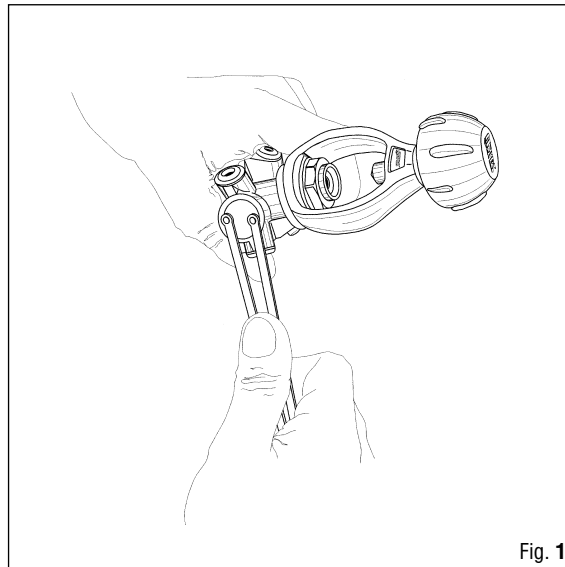

Fig. 1
1. Move the 1ST stage hose protection, and unscrew the hose (26) using a 14-mm open end wrench (B -18).
2. Using a caliper tool (B 25), unscrew and remove the HP housing assembly (4) and remove the spring (8), poppet (9), and pin (12) from the first stage body (1) (Fig. 1).
3. Remove the O-Ring (74) from the HP housing (4).
4. Extract the O-Ring (6) from the HP housing (4).